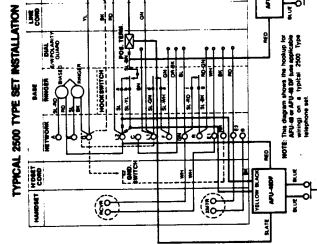
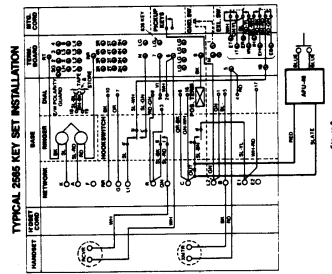
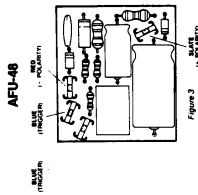
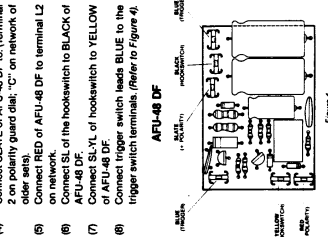

Figure 1
Figure 2
Figure 3
Figure 4
4.01 The AFU-48 and AFU-48 DF can be installed easily in the telephone sets of virtually any manufacturer. Installation requires normal hand tools. In most installations a drill motor and 5/16" hole bit will be required to mount the trigger switch in the telephone set. Refer to the wiring diagram shown for a typical 2500 type set. Figure 1. A typical key system type set is referenced in Figure 2.
4.03 The installation procedure for the AFU-48 to a 2500 type set is as follows: (Refer to Figure 1 and Figure 3).
(1) Remove SL-BN hookswitch wire from terminal 2 on polarity guard dial or network "C" on older style sets.
(2) Connect SLATE wire of AFU-48 to terminal 2 on polarity guard dial or network "C" of older set.
(3) Connect SL-YL of AFU-48 to SL-BN hookswitch wire. (Note: SL-BN wire can be inserted directly into quick disconnect terminal when wire length permits.)
(4) Connect trigger switch leads BLUE to the trigger switch terminals on the AFU-48 (Refer to Figure 3).
4.04 The installation procedure for the AFU-48 to a typical keyset is as follows: (Refer to Figure 2 and Figure 3).
(1) Remove SL-BN hookswitch lead from network "C".
(2) Connect SL-BN to RED of AFU-48.
(3) Connect SLATE of AFU-48 to "C" network on AFU-48. (See Figure 3).
(4) Connect trigger switch leads to terminals on AFU-48. (See Figure 3).
(5) The trigger switch can be any type of normally open, momentary contact. The switch contacts must be free of foreign voltage and isolated from any other connection. Variations on the trigger switch can include isolated non-locking key strip buttons or isolated hookswitch contacts (200 ohm resistance). The hookswitch quick disconnect leads (less than 500ms) of the hookswitch to provide an accurate repeatable flash.
4.05 The AFU-48 DF has six leads (Refer to Figure 4).
4.07 The installation procedure for the AFU-48 DF to a 2500 type set is as follows: (Refer to Figures 1 and Figure 4).
(1) Remove SL-BN hookswitch wire from terminal 2 on polarity guard dial; "C" on older sets.
(2) Remove SL and SL-YL hookswitch wires from terminal L2.
(3) Tape and store SL-BN.
(4) Connect SLATE of AFU-48 DF to terminal 2 on polarity guard dial; "C" on network of older sets.
(5) Connect SL of AFU-48 DF to terminal L2 on network.
(6) Connect SL-YL of the hookswitch to BLACK of AFU-48 DF.
(7) Connect SL-YL of hookswitch to YELLOW of AFU-48 DF.
(8) Connect trigger switch leads BLUE to the trigger switch terminals. (Refer to Figure 4).